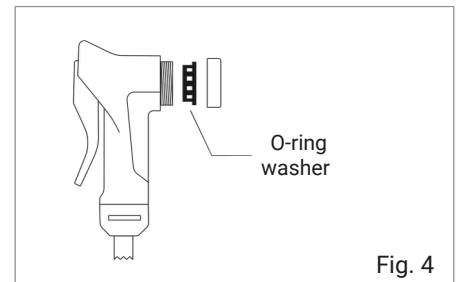

Fig. 4
- 1 Loosen the valve head nut (4) with the Veyhl tool (2) and replace the old valve head washer with the new one from the valve head washer spare parts set (Fig. 4). Then hand-tighten the valve head nut with the Veyhl tool.